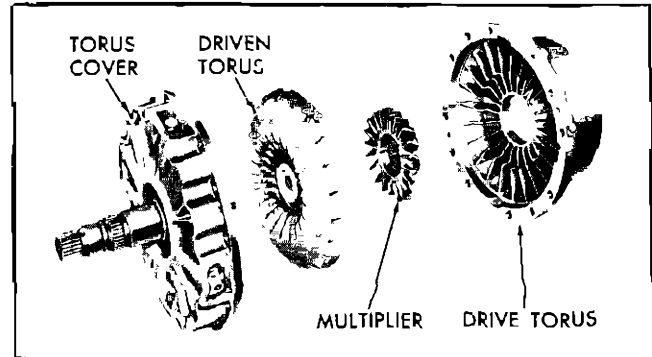

Fig. 106 Torus Assembly
1. Inspect drive torus member for porosity, chipped or damaged vanes (Fig. 106).